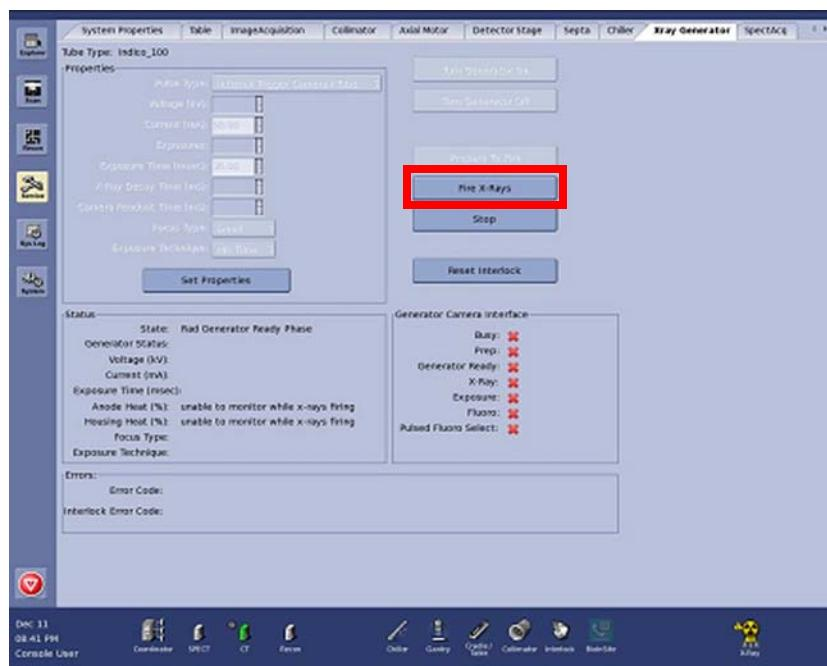

Figure 4-26
13. Click the Fire X-Rays button (Figure 4-26). Listen for the X-Ray generator firing sounds.